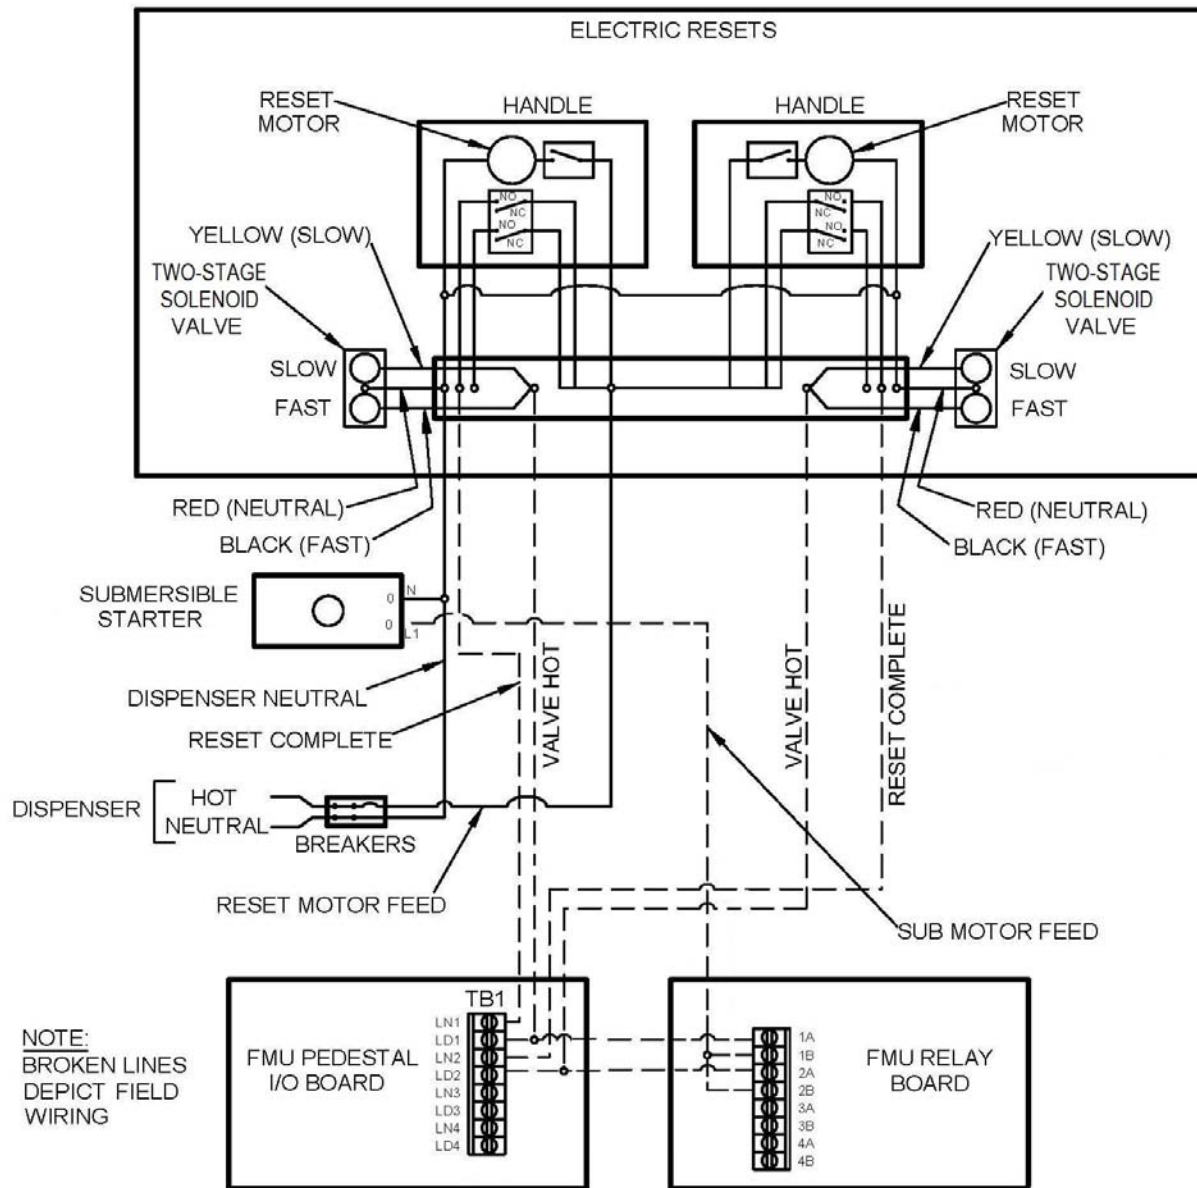

Figure 4-12. Wiring Diagram - Using Dual Control Relay Assembly (DCRA) to Control Two Devices
- d. **Using Dual Control Relay Assembly (DCRA) to Control Two Devices.** See Figure 4-12. Classic and DoD FMUs do not provide for control of dispenser reset while also providing pump handle detection. If it is desired to use a classic or DoD FMU to control solenoid valves and pump motors, and still have pump handle detection, it may be accomplished using a DCRA. The DCRA provides an additional set of relays to control two devices with each hose selection. This control method interrupts power from the dispenser reset mechanism to both solenoid valves and pump motors, and allows dispenser reset without authorization, but prevents pump motor activation until authorized. Pump handle detection is possible from all variations of FMUs.
Figure 4-12 illustrates control of a dual hose, single product dispenser having two solenoid valves and one SUBMERSIBLE STARTER. If the dispenser had two SUBMERSIBLE STARTERS, there would be individual wires from the DCRA to each starter. A wire would be run from 1B to hose 1 SUBMERSIBLE STARTER, and another wire from 2B to hose 2 SUBMERSIBLE STARTER.
This application may also be used to control a dual hose dispenser with two suction pump motors (no internal solenoid valves) and a solenoid controlled anti-siphon valve which must be activated when either motor is turned on. In Figure 4-12, this would be illustrated by substituting suction pump motors where the solenoid valves are, and a solenoid controlled anti-siphon valve where the SUBMERSIBLE STARTER is shown.
- 10) Repeat steps 1 through 9, as required, for all additional hoses. For the wiring diagram shown in Figure 4-12, with one starter, run a jumper wire from 1B to 2B. This will provide for an output to the starter when an input is received on 2A.